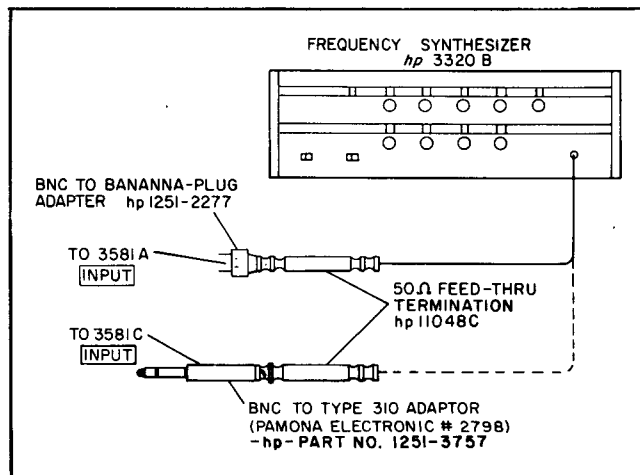

Figure 5-1. Synthesizer Connection.
c. Connect a properly terminated Frequency Synthesizer to the 3581 INPUT (see Figure 5-1). Set the Synthesizer frequency to 10 kHz.